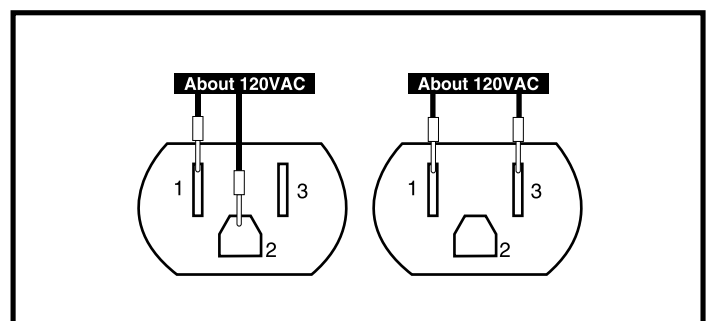

Figure 21. Electrical Outlet
19. Measure voltage across pin 1 and pin 2 of the electrical outlet's 3-pin connector, then measure voltage across pin 1 and pin 3 on the electrical outlet. See figure 21.